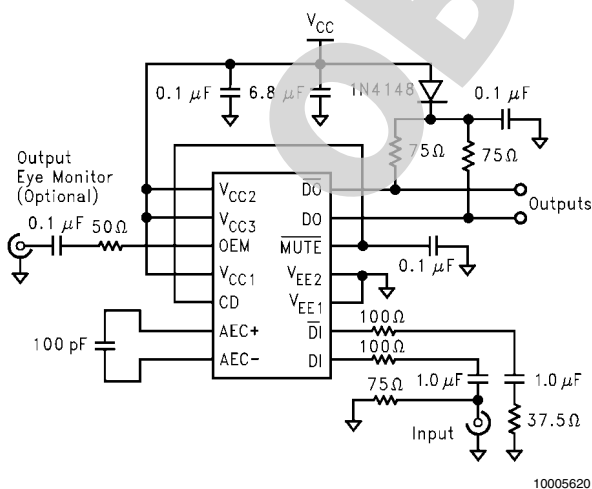

FIGURE 1. CLC014 Equalizer Application Circuit
Carrier Detect (CD) is a CMOS output that indicates the presence of equalized data from the filter. This CD output can be connected to $\overline{\text{MUTE}}$ to suspend changes in the data outputs DO and $\overline{\text{DO}}$, if no valid signal exists. This simple configuration prevents random output transitions due to noise. For sparse transition patterns it is recommended that a capacitor be connected to CD as shown in Figure 1.
The OEM is a high-speed, buffered output for monitoring the equalized eye pattern prior to the output comparator. Its output is designed to drive an AC-coupled 50Ω coaxial cable with a series 50Ω backmatch resistor. The cable should be terminated with 50Ω at the oscilloscope. Figure 1 shows a schematic with a typical connection.
The CLC014 operates from either +5V or -5.2V single supplies. Refer to Figure 1 when operating the part from +5V. When operating with a -5.2V supply, the V_{EE} pins should be bypassed to ground. The evaluation board and associated literature provide for operation from either supply.